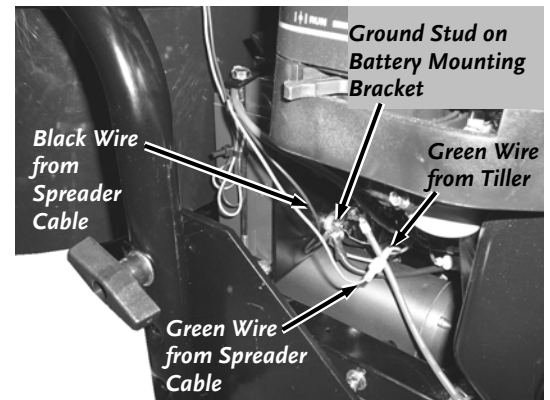

Figure 14
3. Plug the Green Wire Connector from the Spreader Cable into the Green Wire Connector from the Tiller (**Figure 14**).